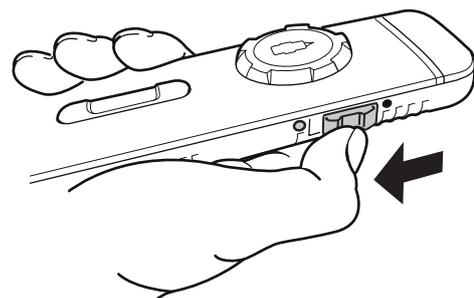

Fig. 26
- ▶ Slide the slide switch on the side downwards to switch off the remote control (Fig. 26)